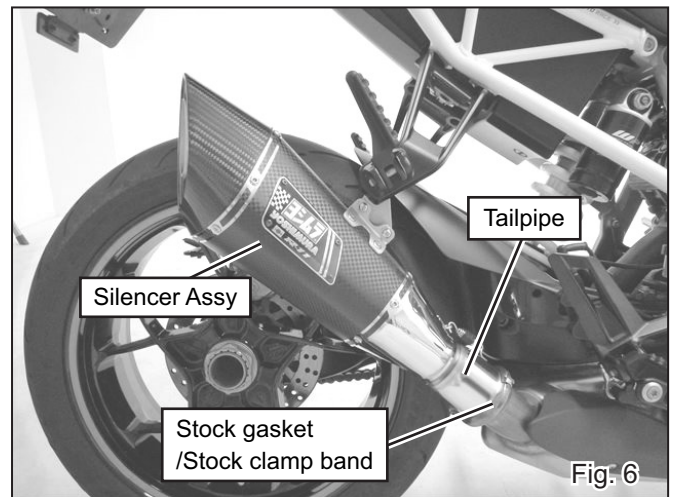

Fig. 6
6) Install stock gasket and clamp band which removed at Step. 2. on to Tailpipe. Then, install the assembled silencer to stock tailpie (See Fig 6). Tighten the clamp band by hand only at this stage.